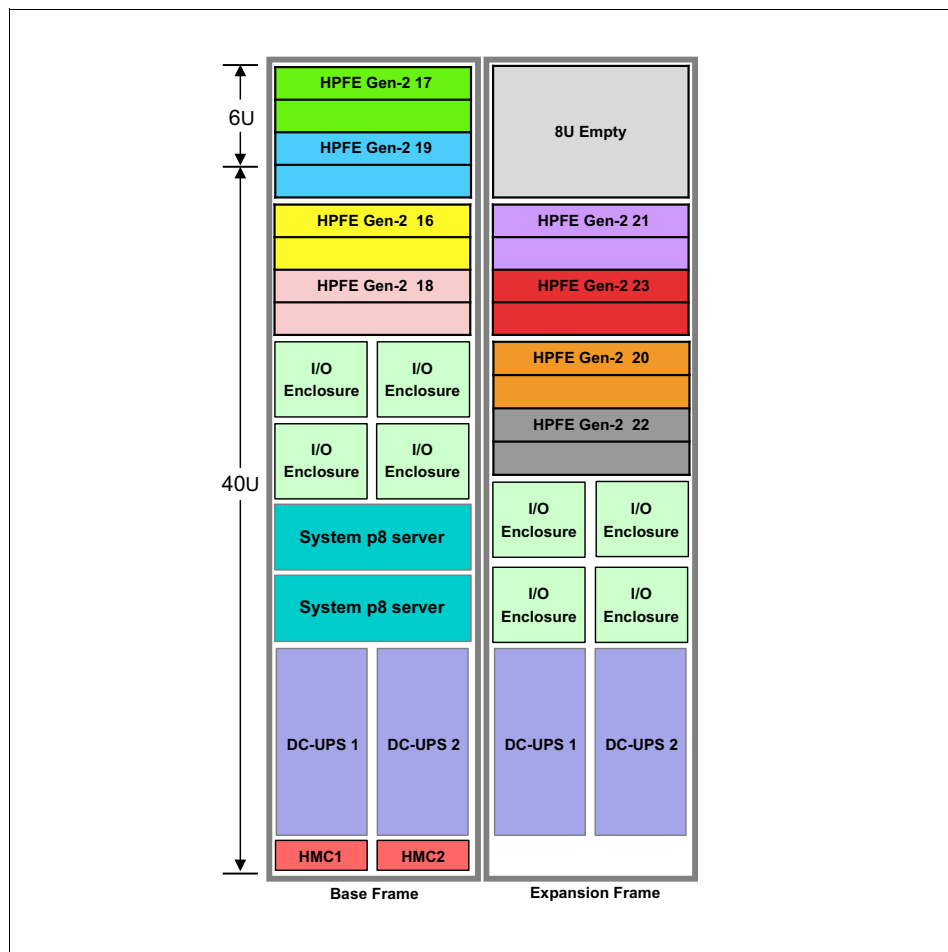

Figure 2-2 Front view of fully configured DS8886F configuration with 3-phase DC-UPSs
Figure 2-2 shows a fully configured DS8886F configuration. This example shows a 3-phase system (986), but single phase(985) systems are similar. It can be configured with four pairs of HPFE Gen2 enclosures in both frames 1 and 2.